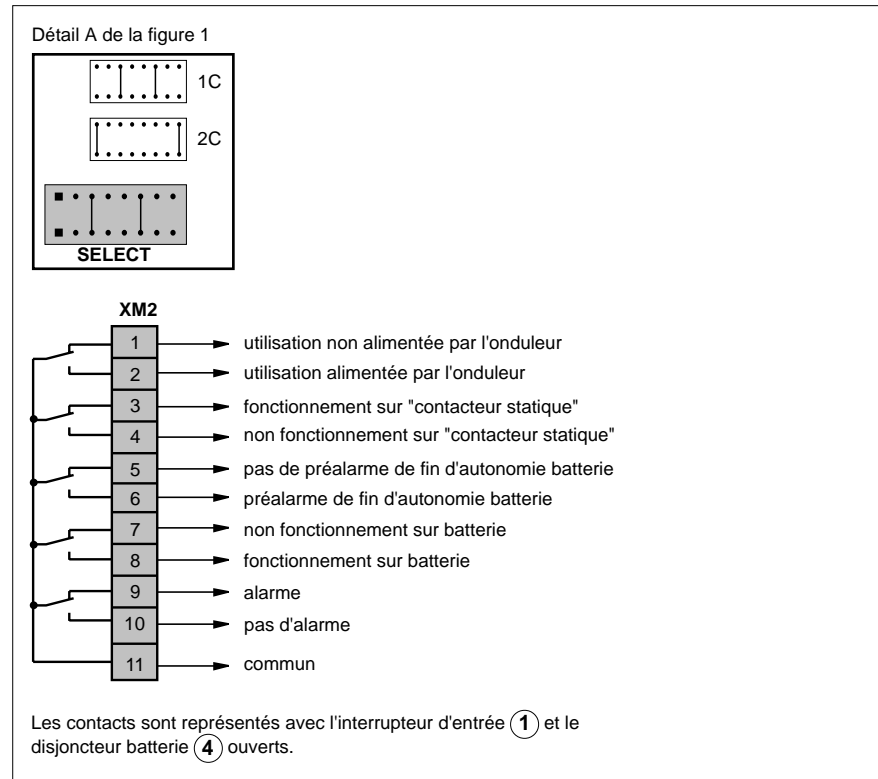

Fig.2
▶ configuration 1c (1 commun, voir figure 2) ;